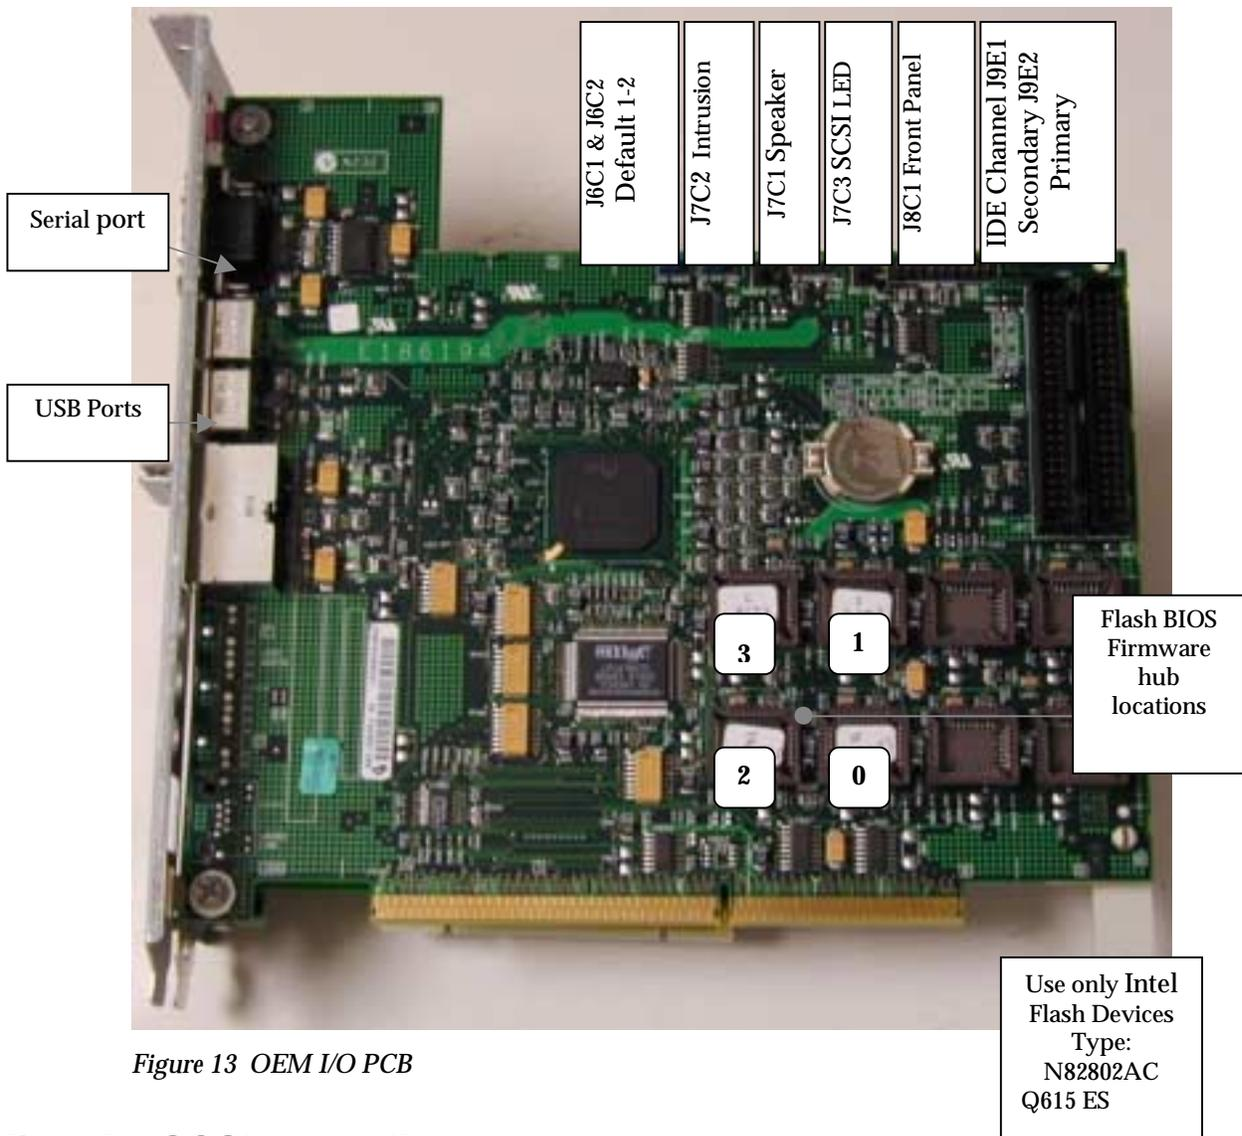
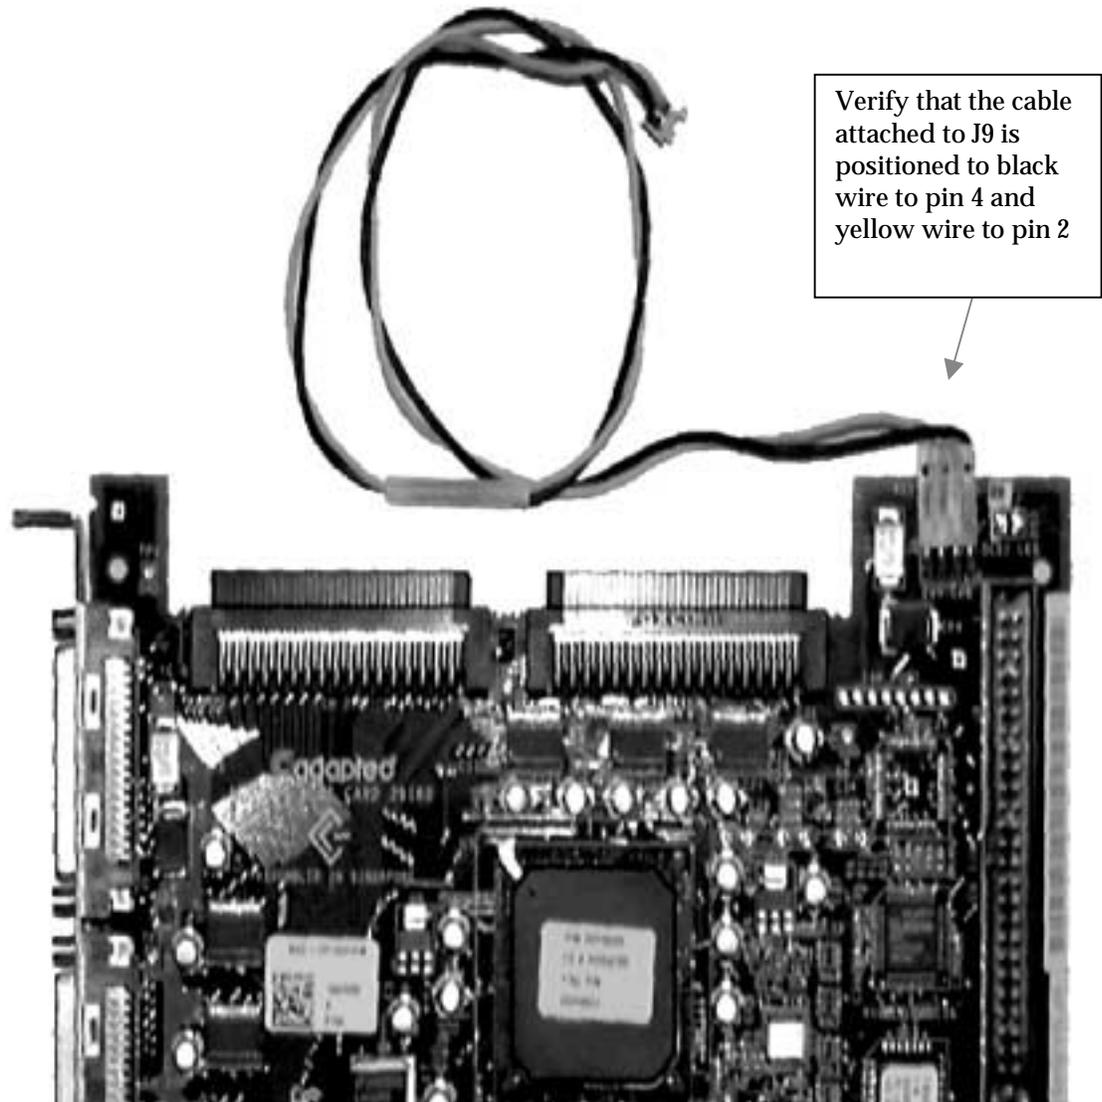

Figure 13 OEM I/O PCB
Figure 14 Adaptec SCSI adapter
7. Attach the drive Activity Indication cable (black & yellow) from the Adaptec adapter to J7C3 on the OEM I/O Board. Refer to Figure 13 and Figure 14.